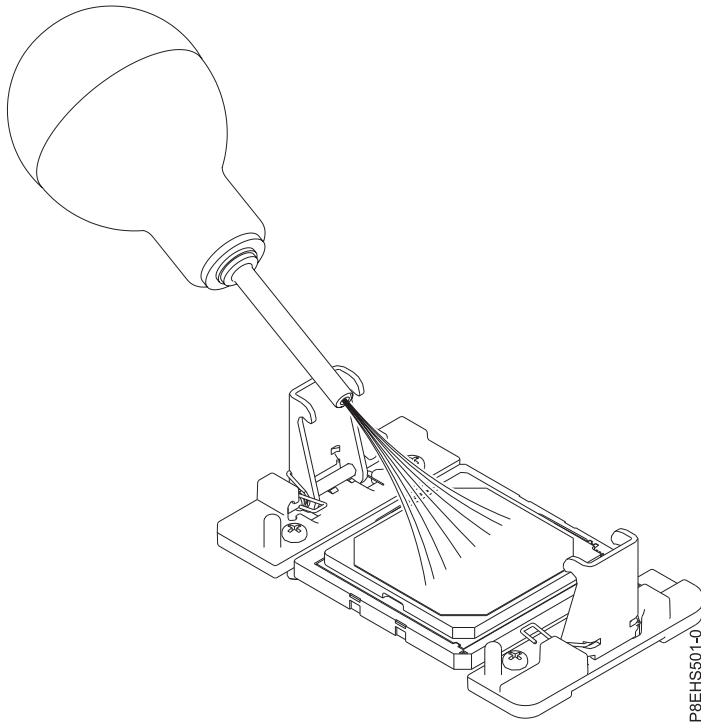

Figure 157. Removing dust and debris from the system processor module area
5. Remove dust and debris from the system processor module area. If dust or debris is present, use the supplied air pump (part number 45D2645) to clean the system processor module area. Blow small bursts of air from the center toward the sides of the system processor module as shown in Figure 157 on page 138. If your air pump is not assembled as shown in Figure 157 on page 138, fasten the tip onto the bulb.